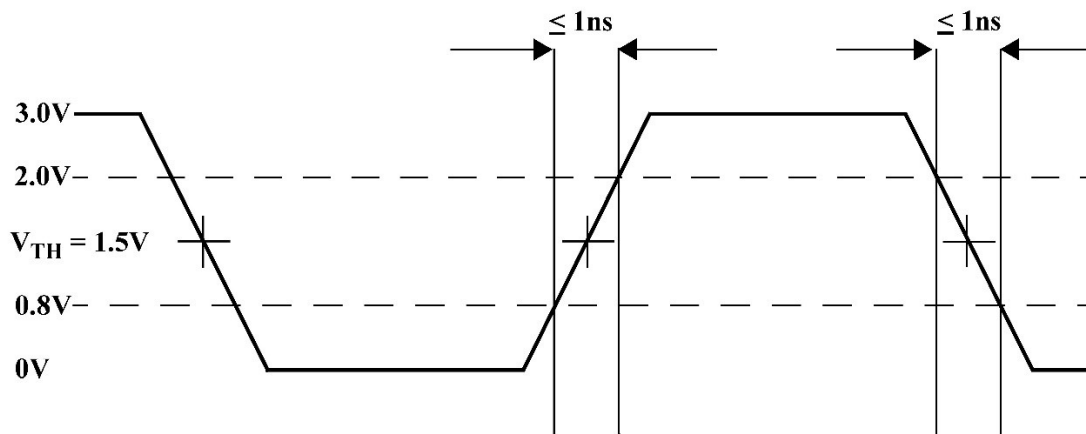
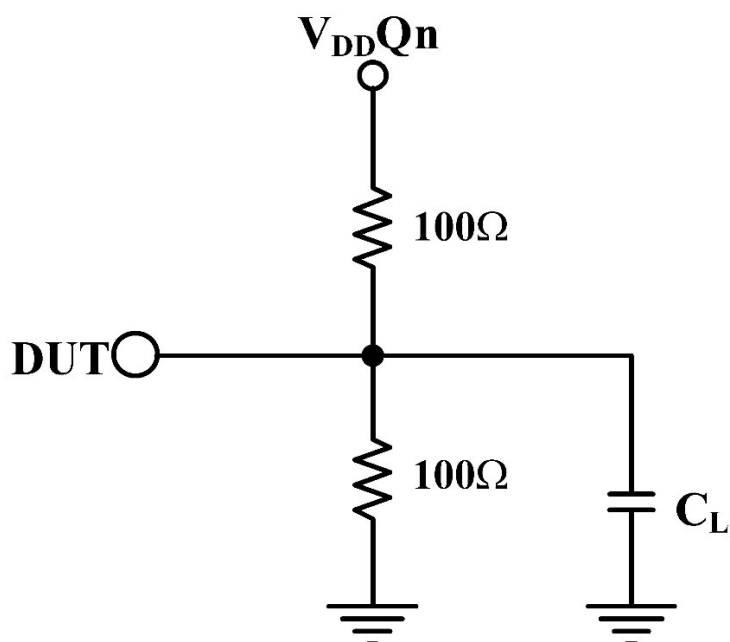

Figure 9. +3.3V LVTTTL Input Test Waveform
Figure 11. Clock Output AC Test Load Circuit
1. Reference Figure 11 for clock output loading circuit that is equivalent to the load circuit used for all AC testing. The input waveform used to test these parameters is shown in Figure 9.
1. Reference Figure 11 for clock output loading circuit that is equivalent to the load circuit used for all AC testing.
3. Test load = 40pF, terminated to $V_{DD}/2$. All outputs are equally loaded. See figure 11.